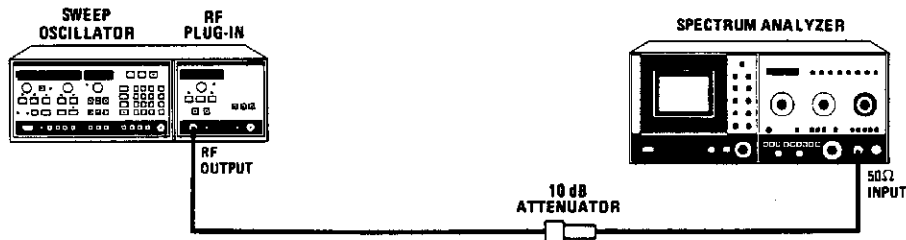

Figure 4-18. AM ON/OFF Ratio and Square Wave Symmetry Test Setup
1. Connect equipment as shown in Figure 4-18. Press Model 8350A/B [INSTR PRESET], [CW] [1] [GHz] and engage [\square] MOD]. Set Model 83592C POWER LEVEL to +10 dBm.